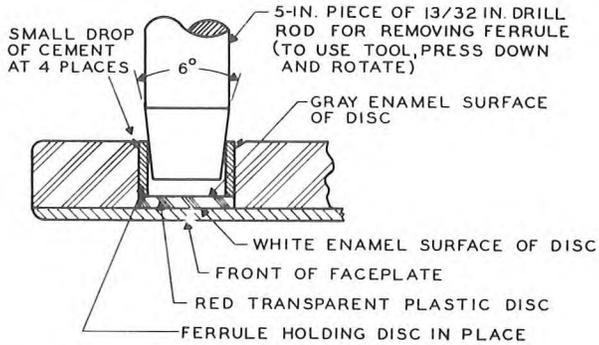

Fig. 41 — Procedure for Disassembly of Light Filters in 1- and 2-type Faceplates
- Breaking the cement joints holding the disc retaining ferrule in the faceplate. This is accomplished by inserting a tapered rod into the ferrule and twisting it. (See Fig. 41.)